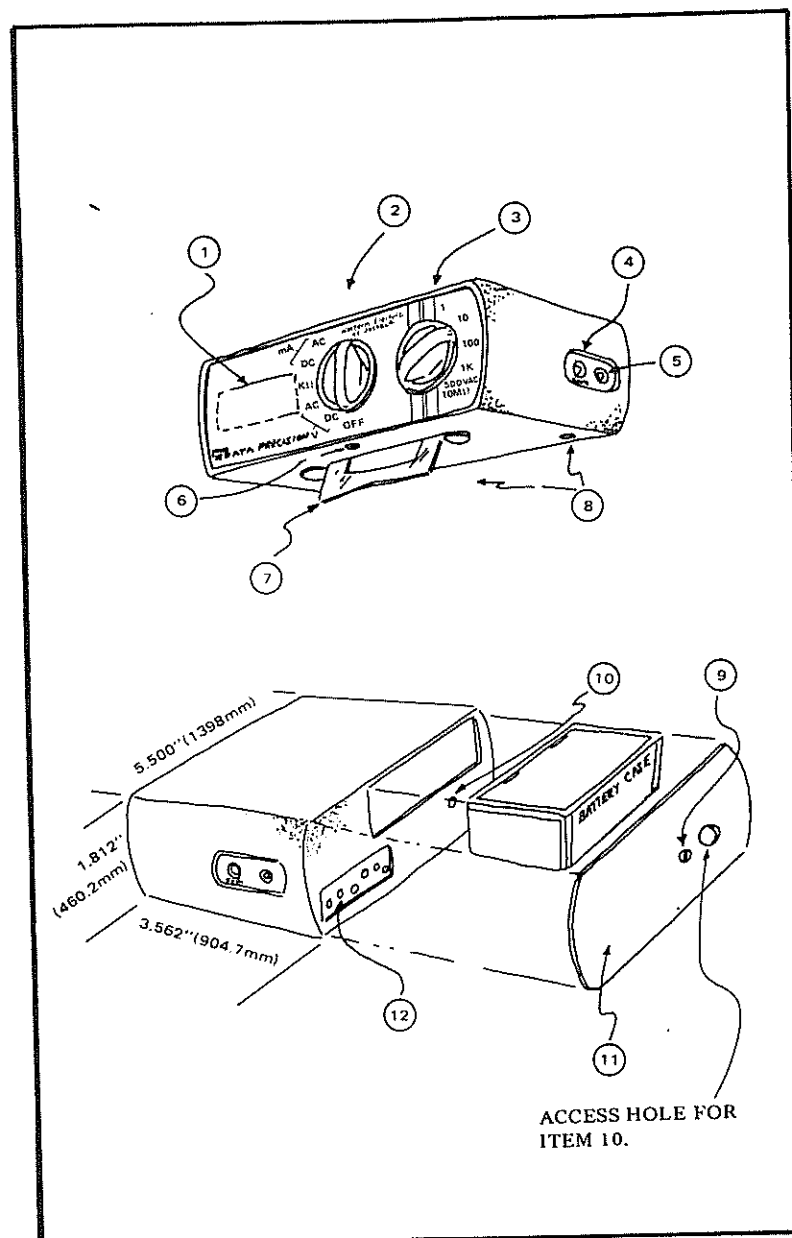

Figure 2-1. Operating controls and indicators, showing access to Battery pack and calibrating adjustments (after removal from leather case).
2.3 KEY POINTS ON YOUR MODEL 245 DMM (FIGURE 2-1)
Check the battery charge level by using the meter on DCV function and 10 Range. Place the HI probe on the metal ring of the battery charger input (item 10 on figure 2-1). A negative measurement with a value in excess of 7.2 indicates a charged battery.